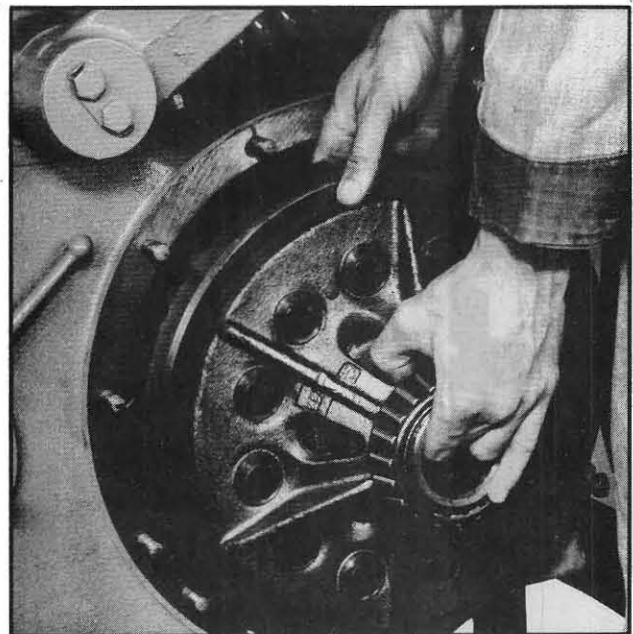

Fig. 253
6. Remove the left-hand axle housing and lift out the differential case, see Fig.253.